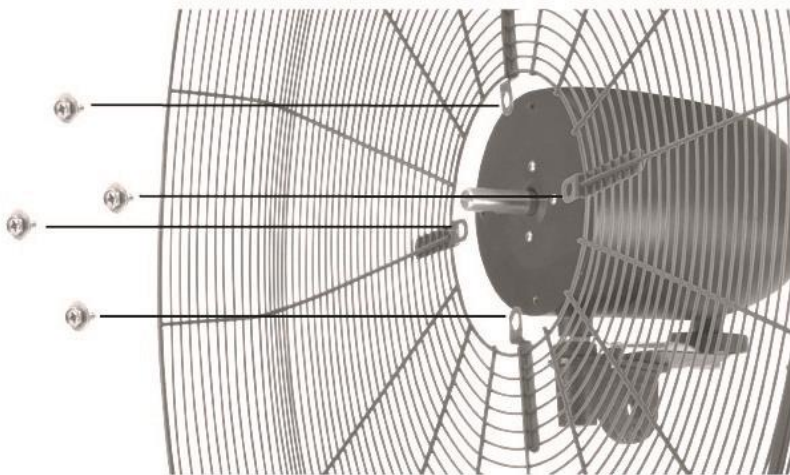
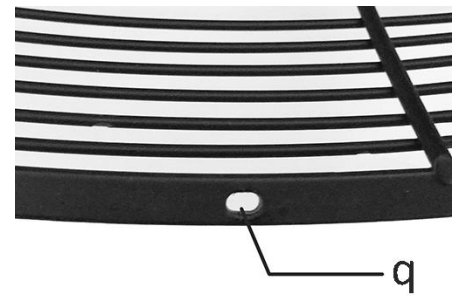

fig.11
fig.12
3. Attach the rear grille onto the motor unit by aligning the screw holes on the grille and the front side of the motor unit. Tighten back the four screws. (fig.11) Make sure the screw hole (q) on the rear grille is at the bottom. (fig.12)